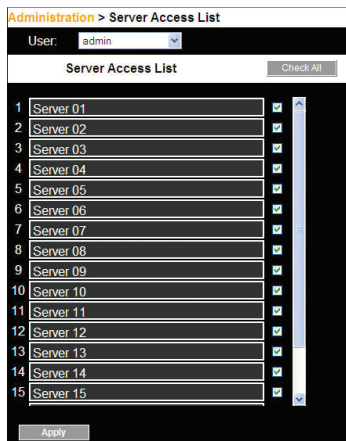

Figure 19 Server Access List Configuration
1. From the menu, click “Server Access List”. The Access List Configuration window will appear (see Figure 19).